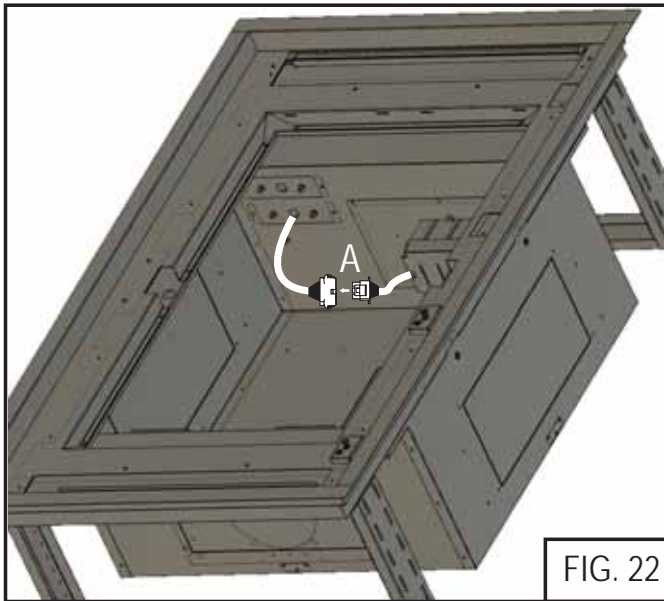

FIG. 22
1. Connect 6 Pin Remote Blower Cable to 6 Pin moxex plug from internal component box inside range hood. FIG. 22